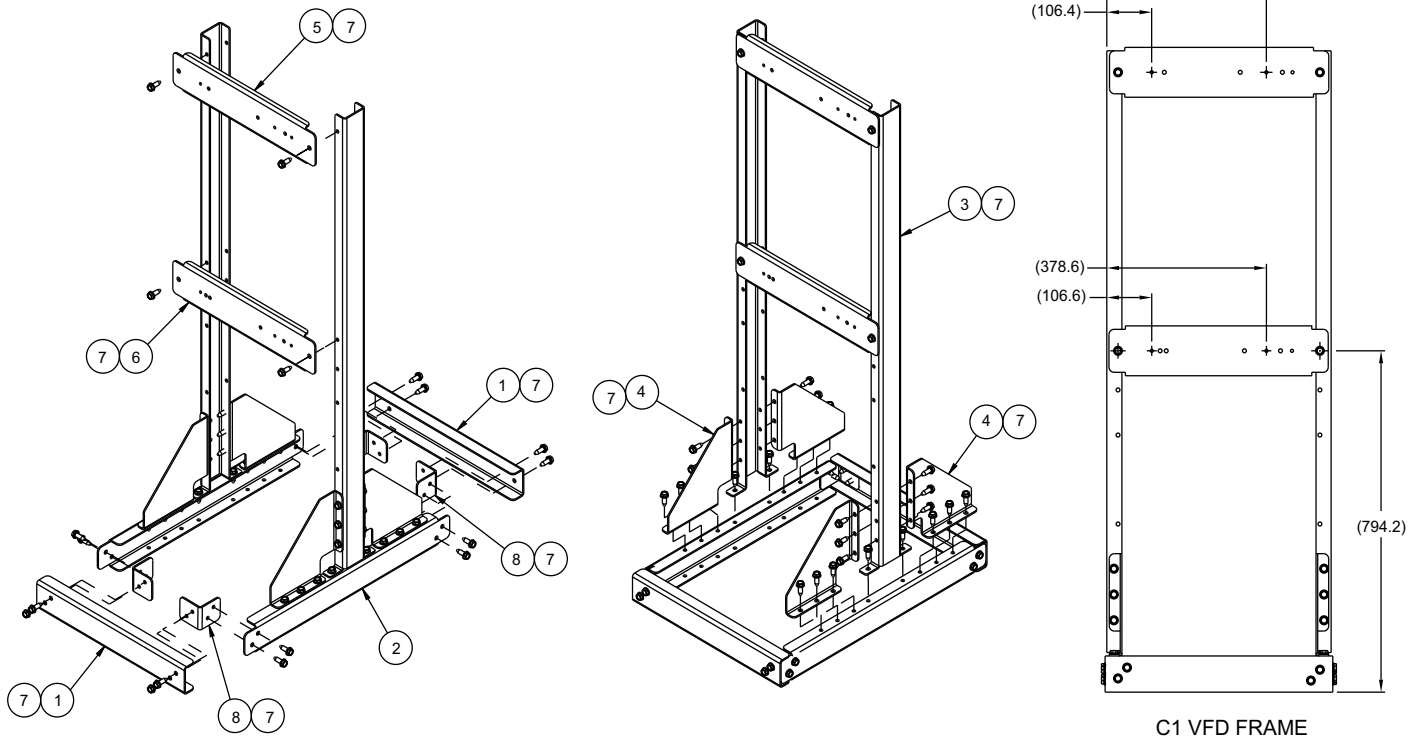

Fig. 1 — Bracket Assembly
1. Use the provided hardware (see Table 1, Ref 1 to 7) to assemble the standalone VFD bracket according to the VFD frame size. Use Tables 2 and 3 for the VFD selection as per tonnages and voltage rating. Refer to Fig. 1 and 2 for assembly and additional guidance.
2. Locate the mounting locations on the VFD and match them up to the locations on the mounting bracket according to the specified frame size (see Fig. 1 and 2 for the specified reference frame size positioning).